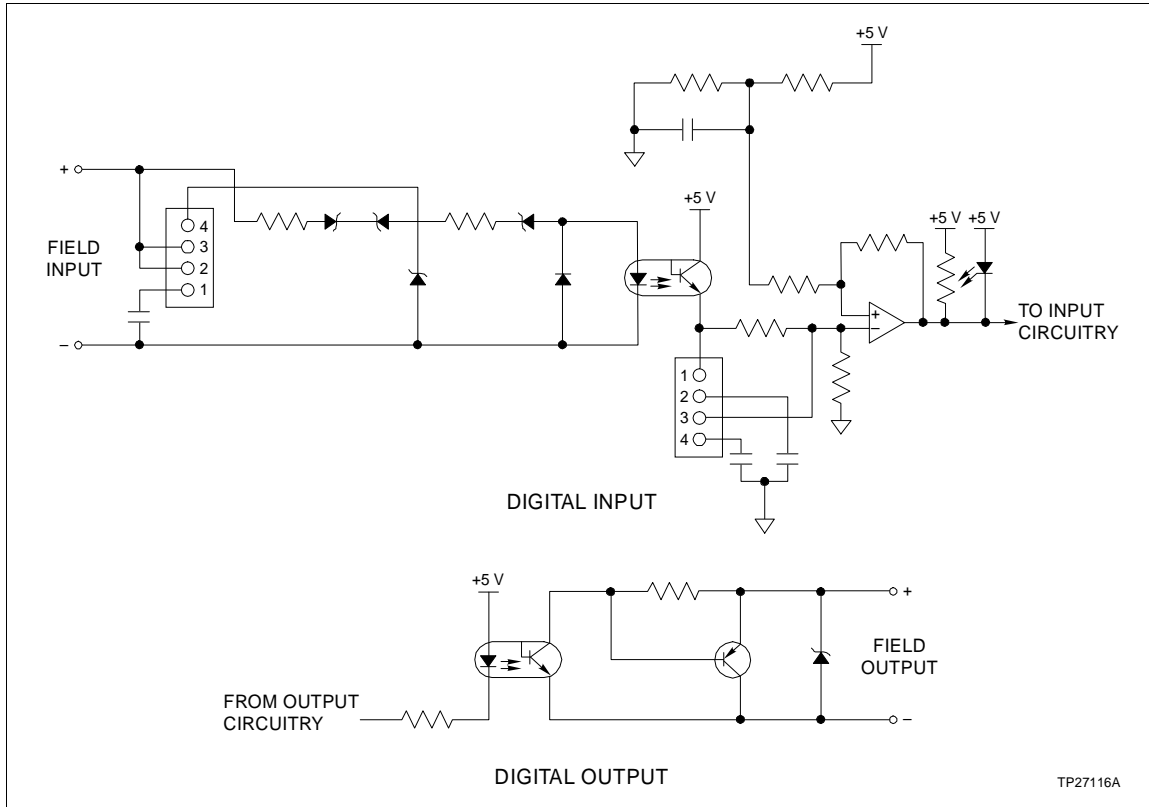

Figure 2-3. IMCIS02 Digital Input and Output Circuits
The CIS can input three separate digital signals and output four separate digital signals. Digital inputs are voltages of 24 VDC, 125 VDC or 120 VAC. These voltages indicate an energized (ON) field device; a 0 volt input indicates a de-energized (OFF) field device. The CIS digital outputs can switch 24 VDC at 250mA. Figure 2-3 shows the digital input and output circuits.